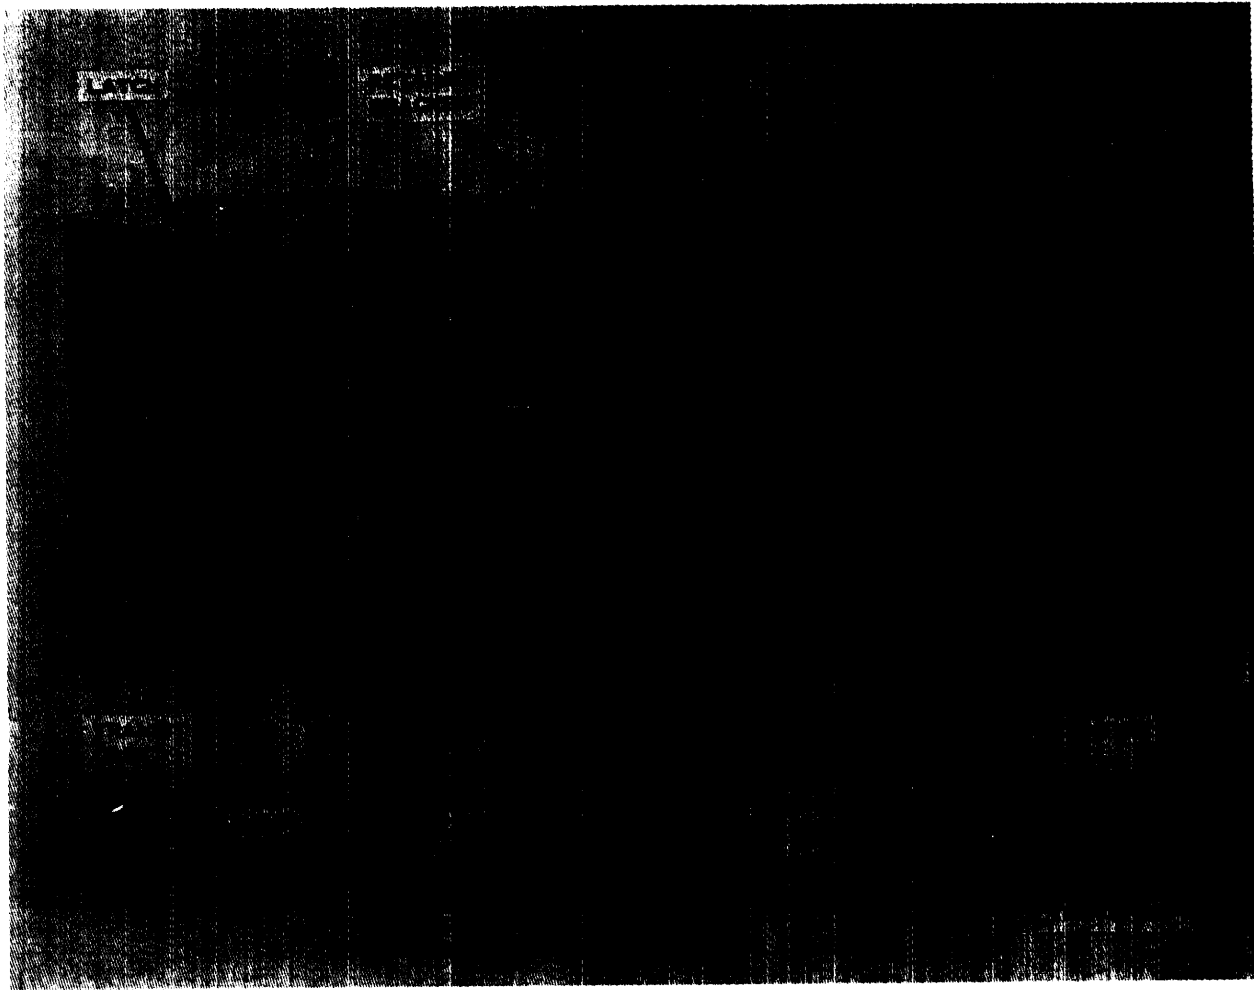
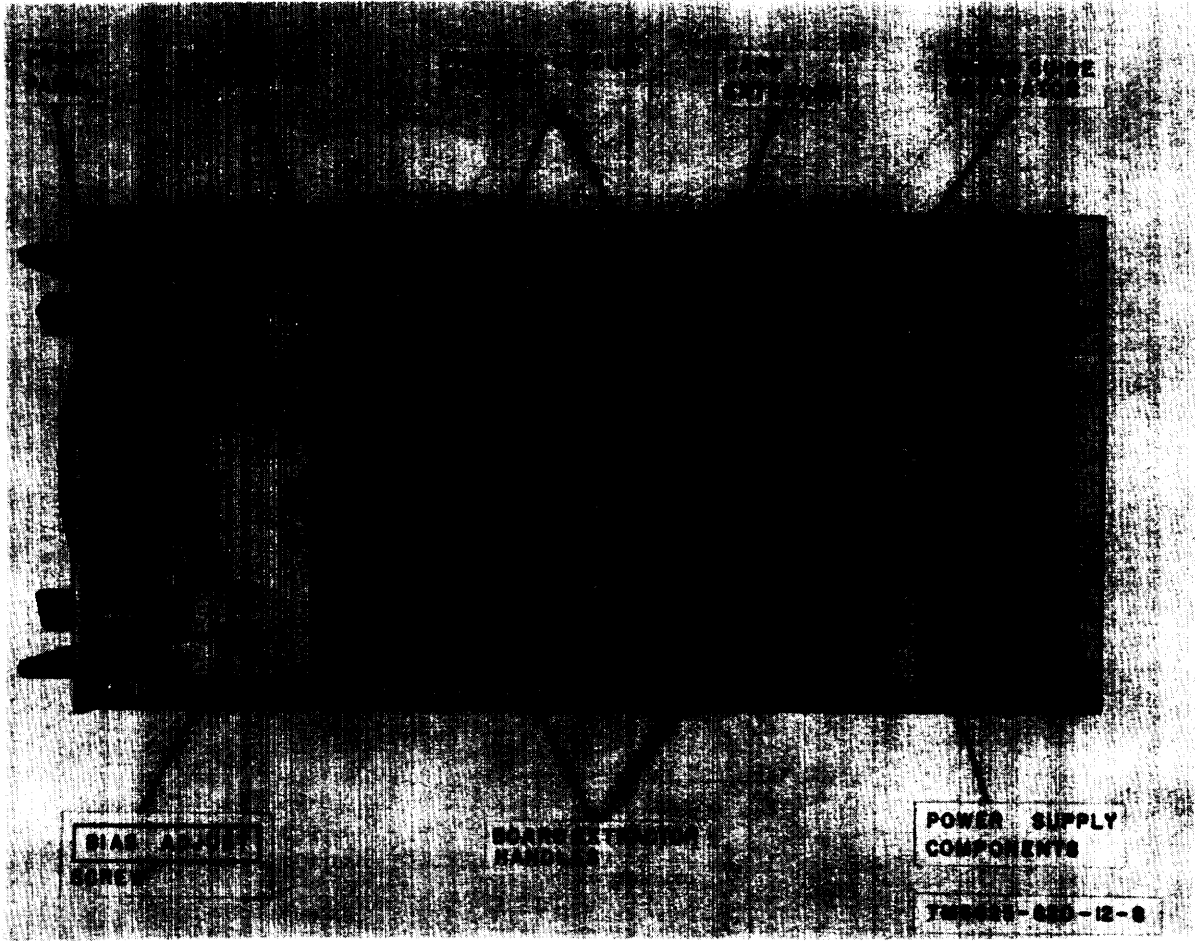
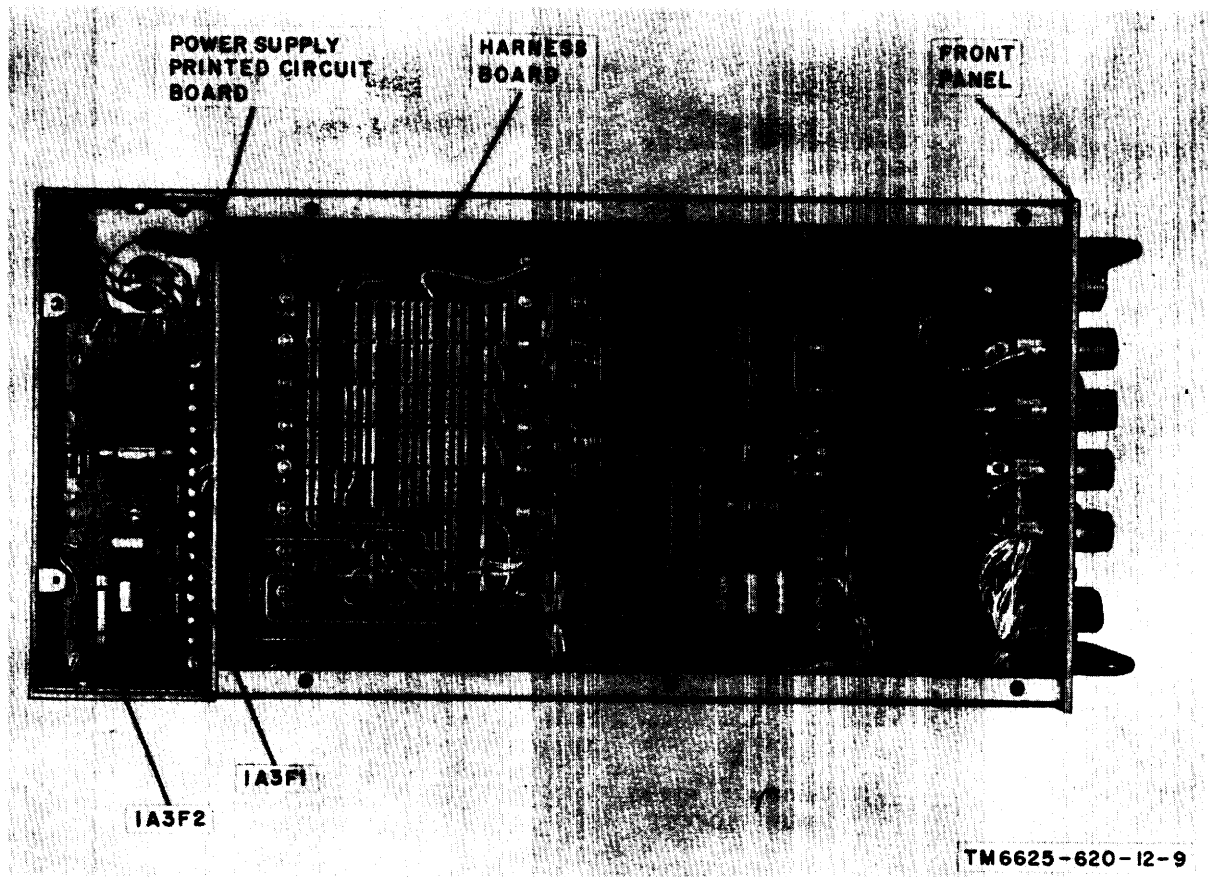
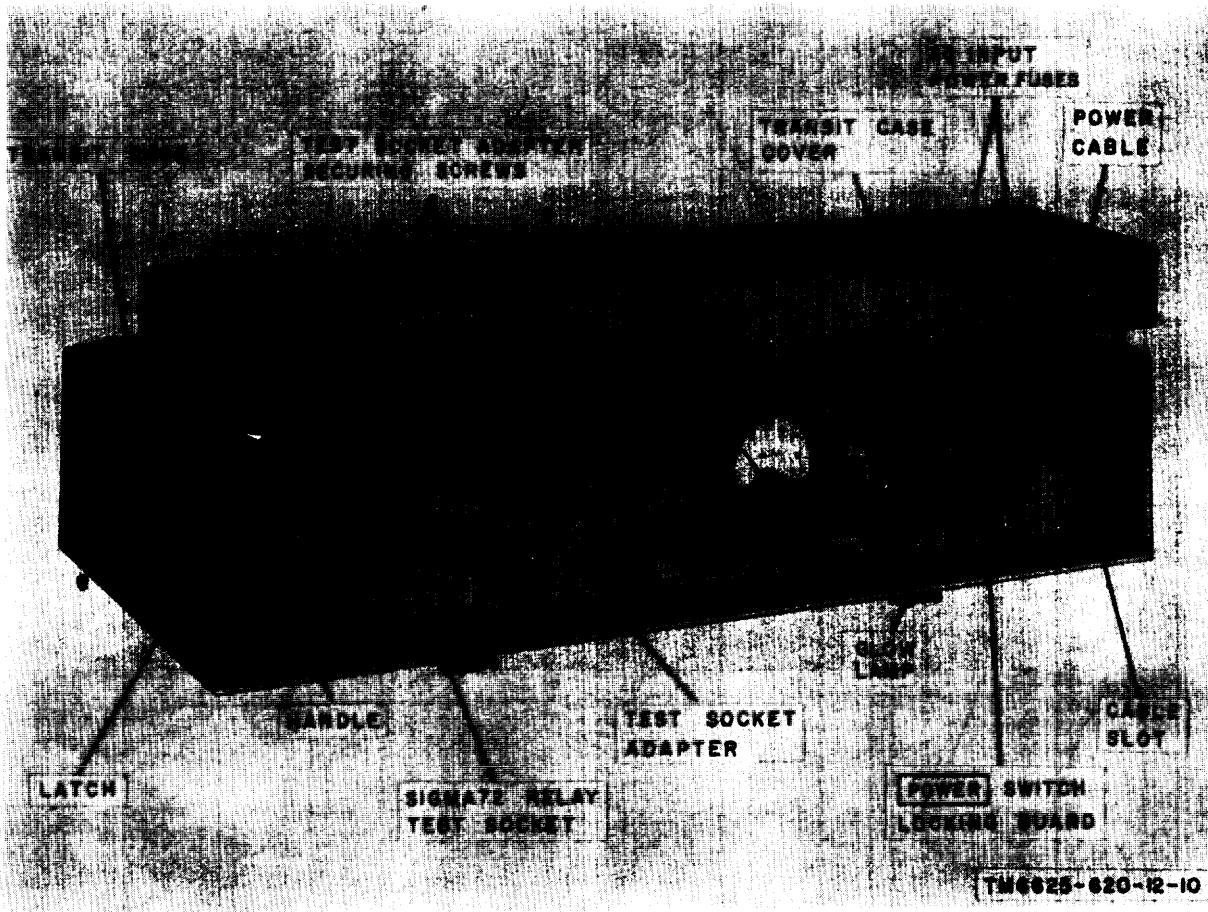

Figure 1-7. Test Set Teletypewriter TS-800/UGM-1 in transit case.
Figure 1-9. Test Set, Teletypewriter TS-800/UGM-1, top view.
Figure 1-10. Test Set, Teletypewriter TS-800/UGM-1, bottom view.
Figure 1-11. Test Set, Relay TS-886/UGM-1, in transit case.
(1) The distortion analyzer, a lightweight transistorized test set, is contained within a transit case (fig. 1-7) and secured to the case at its front panel by four bracket-securing screws. The unit can be operated from its-case or,
- (2) All operating controls are mounted on the front panel (fig. 1-7) together with the ac input power fuses and two spare fuses. Internally, the unit is divided into four sections by board-guide separators (fig. 1-9).
- (b) The second and third sections contain a harness board (fig. 1-10) into which 15 PC boards are inserted. The boards are installed from the top (fig. 1-9) into groove-slides on the board-guide separators, and plug into connectors on the harness board. A card extender is provided which fits into all assembly locations for troubleshooting. Each PC board contains an extractor handle that facilitates its removal and installation; extractor
- (1) The lightweight, transistorized relay test set is mounted in a transit case (fig. 1-11) and secured to the case at its front panel. All operating controls are mounted on the front panel together with the ac input power fuses. Two spare fuses are mounted in clips next to the test socket adapter. The relay test set can be operated from its case or while mounted in a rack. A description of the transit case is given in paragraph 1-9b. An ac power cable is permanently wired to the power supply at the rear of the unit (fig. 1-12). This cable is also accessible from the front of the relay test set at a cable slot while the unit is in its transit case.
b. The relay test set transit case (fig. 1-11.) has two handles. Inside the bottom of the case is a guide rail which guides two relay test receptacles into two locating pins on the rear panel of the case. These locating pins stabilize the unit and minimize shock and vibration during transit. Two brackets, one on each side of the transit case, secure the relay test set to the transit case. The transit-case cover is attached to the transit case by six latches, two at the top and bottom and one on each side. A power cable, permanently wired to the rear of the relay test set (fig. 1-12), is brought from the rear along the right side and out through an external cable slot (fig. 1-11) at the front panel of the relay test set. During transit, excess cable is wrapped around retainer brackets in the relay test set transit-case cover.
(1) Unsnap the six snap latches, and carefully remove the cover and unwind the power cord from the retainer brackets inside the cover (fig. 1-11).
(2) Unscrew the four screws that hold the front panel to the transit case.
(3) Grasp the relay test set by its front handles and pull the unit forward. Place the unit in a convenient inspection area.
(4) Replace the four screws in the transit case.
*Note.* The four 10-32 panhead screws that secure the relay test set to its transit case can be used to secure the unit in a rackmount installation. The relay test set should be mounted at a location and a height which permits the relay test socket adapter (fig. 1-11), when removed, to be placed on a flat area for relay testing (approximately 14 inches from the front panel).
(e) Connect the distortion analyzer mounting bracket to the two bracket-securing mounting holes (fig. 1-7) on the left side of the unit 10-32 panhead screws.
**Caution:** Make certain that the power cable is never connected to 230 volts ac with the POWER switch locking guard permitting the POWER toggle switch to be set to the 115-volt position. When this condition occurs, one of the ac input power fuses (fig. 1-7) will blow.
- (2) *Relay test set rack installation.*
- (c) Position the permanently wired power cable (fig. 1-11) at the rear of the unit.
- (d) Place the relay test set in the rack below the pattern generator distortion analyzer, and attach the relay test set to the rack with four 10-32 panhead screws at the bracket-mounting holes (fig.1-11).
right side of the transit case (inside) and out through an external cable slot at the front panel (fig. 1-11).
- (1) *Mechanical relay.* Plug the mechanical relay to be tested directly into the test socket adapter or into one of the two available sockets (figs. 1-11 and 1-13), depending on the type of relay to be tested.
*Note.* To install the WECO-type 255A relay into the test socket (fig. 1-13), the test socket adapter must be removed by loosening the securing screws (fig. 1-11).
- (2) *Electronic relay.* Although most electronic relays can be plugged into the octal test socket at the front of the relay test set, some electronic relays
*Note.* When checking a mercury-wetted type relay, the test socket adapter (fig. 1-11) should be removed and placed on end, so that the mercury-wetted relay may be tested in its *upright* position.